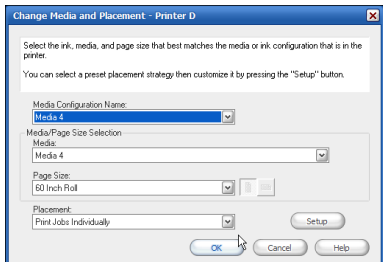

Figure 2—Change Media and Placement
2. Click **Change** in the Printer Information area on the right-side of your screen. This opens the Change Media and Placement dialog (see Figure 2).